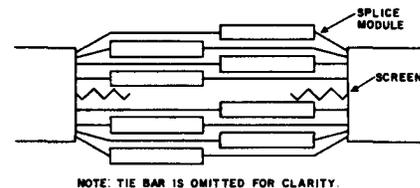

Fig. 3—Typical Screened Cable Prior to Restoration of Screen and Encapsulation
4.09 Treat binder groups on each side of the screen as separate cables. Tie off and splice the cable ends in accordance with the PIC binder group color code and pair sequence. Figure 3 illustrates a typical screened cable with 710-type connectors prior to restoration of the screen and encapsulation.